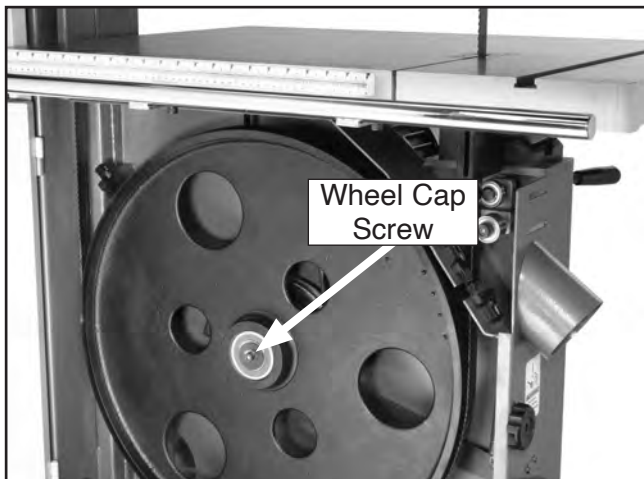

Figure 76. Wheel cap screw for removing the wheel.
4. Unthread the wheel cap screw shown in **Figure 76** and slide the lower wheel off of the bearing shaft.